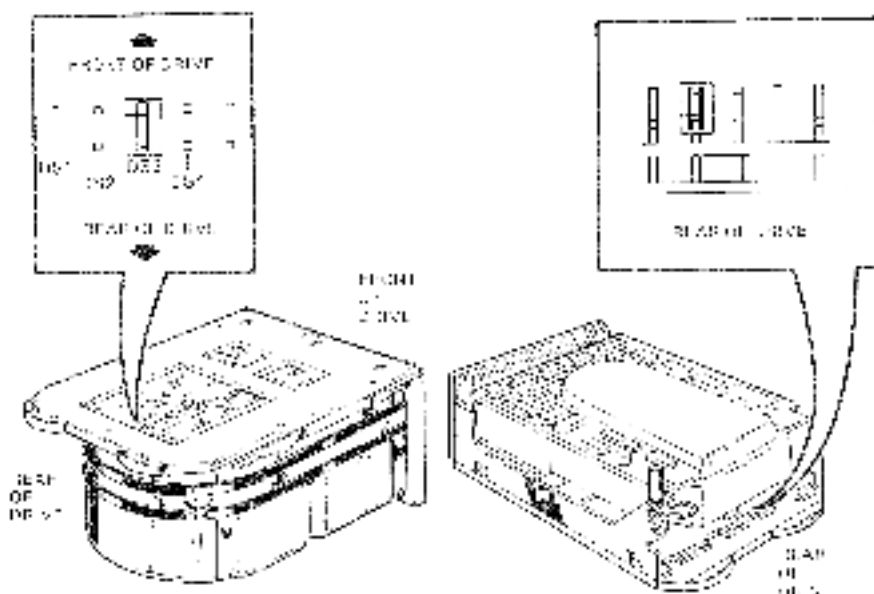

Figure 8-6 RD52 Jumper Clip Setting
7. To configure an RD5n drive as DCO (installed in port 0), make sure the jumper clip is set at DS3 (Figure 8-6). To configure an internal RD52 drive as DCO (installed in port 1), place the jumper clip on DS4. Refer to Sections 5.3 and 5.5 for further information.